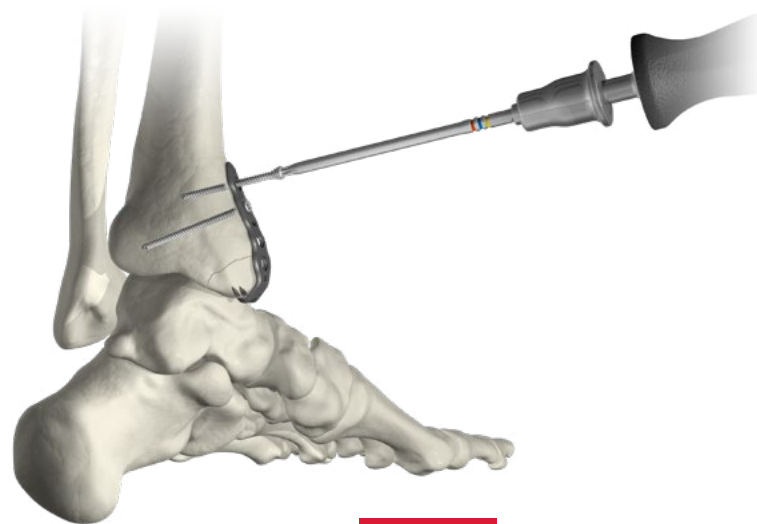

FIGURE 24
9. Insert the Depth Gauge into the pilot hole to determine screw length. Select an appropriate length screw. Insert screw into the pilot hole and drive screw to the final position with the driver (FIGURE 24).